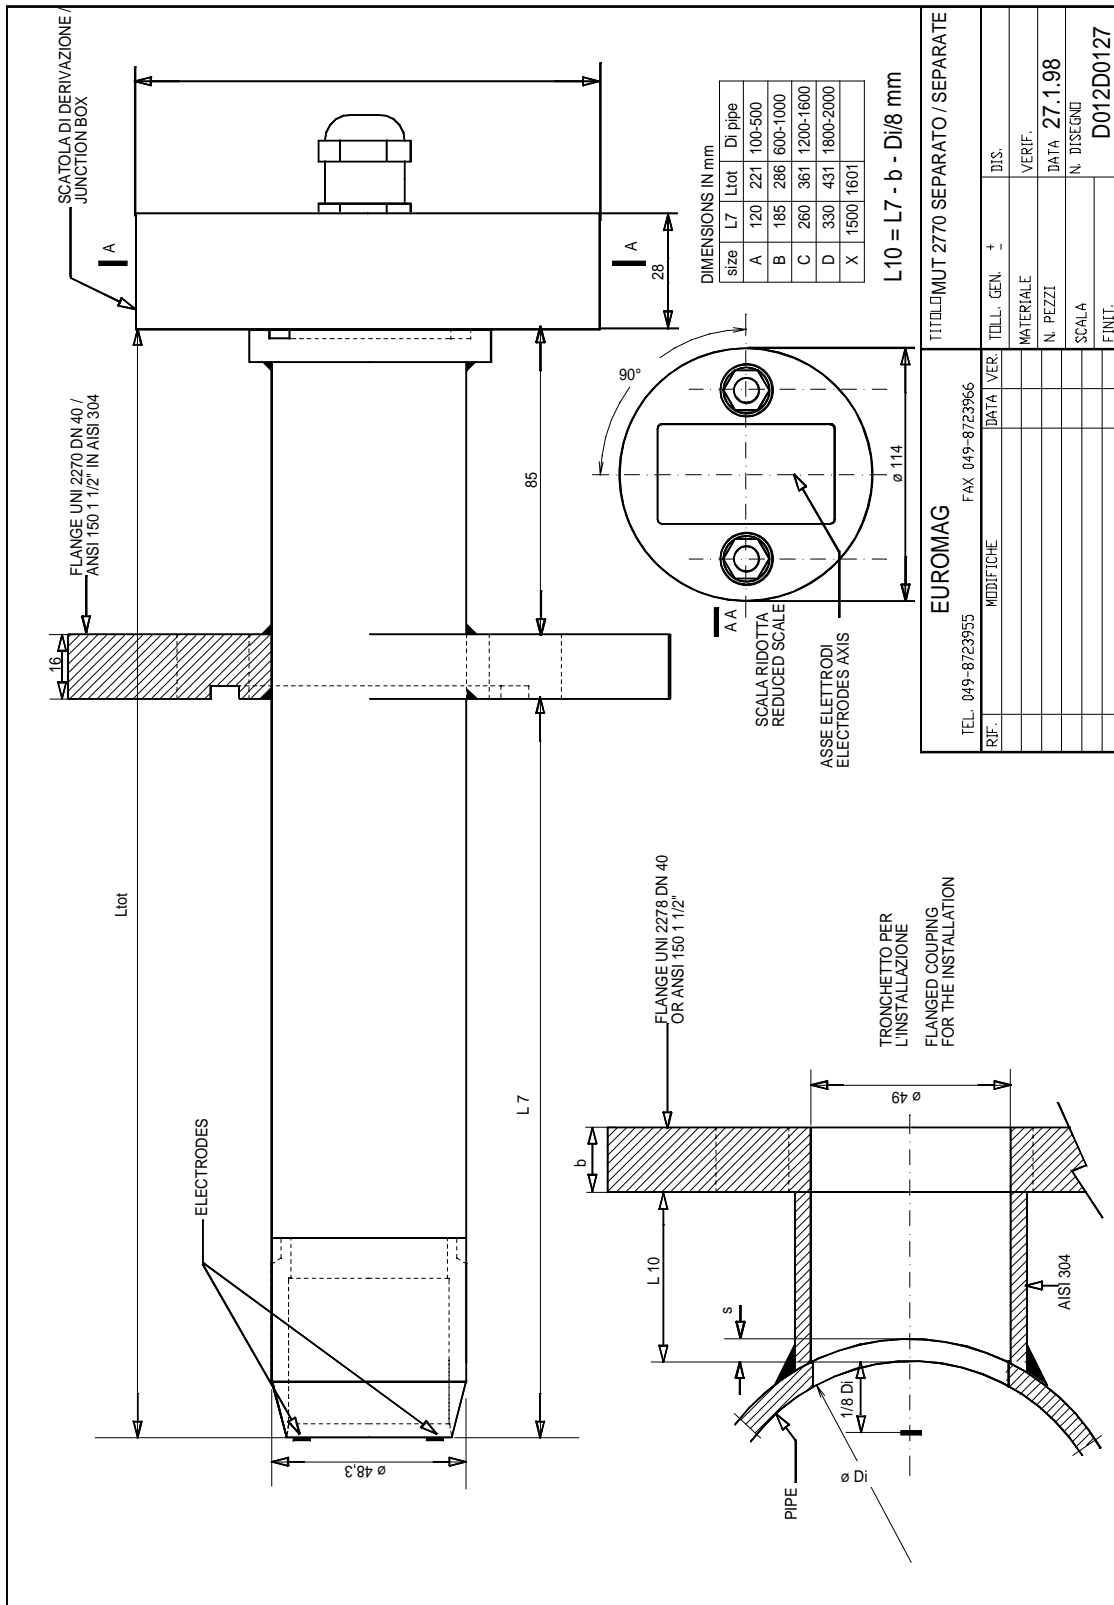

Fig. 11.2
- Weld to the pipe hole a flanged coupling with the following features (see Fig. 11.2)